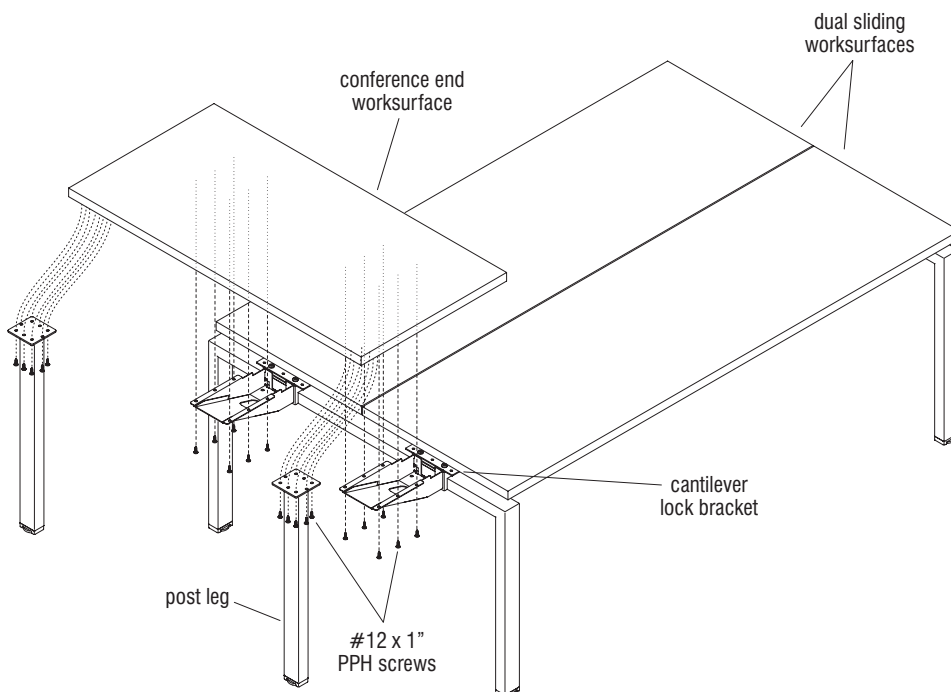

Figure 6 - Conference End with Dual-Sided Worksurfaces (sliding shown)
2. Install two post legs to the outer corners, to the underside of the conference end worksurface using eight #12 x 1" Phillips pan head screws per leg at pre-drilled holes (Figure 6).
3. To install a conference end worksurface with post legs, set the conference end worksurface onto the cantilever brackets. Align mounting holes to pre-drilled holes in the conference end worksurface and secure using six #12 x 1" Phillips pan head screws at each cantilever worksurface support bracket. Take care to not over-tighten screws (Figure 6).